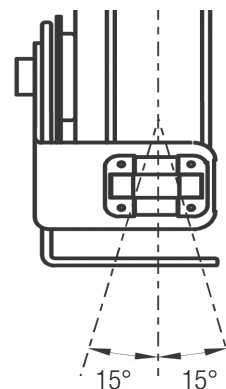

Figure 4-5
2. The cable should extend perpendicular to the rotation of the spool. The total cable deflection should not exceed  $15^\circ$  to either side of the center line of the spool. See Figure 4-5.